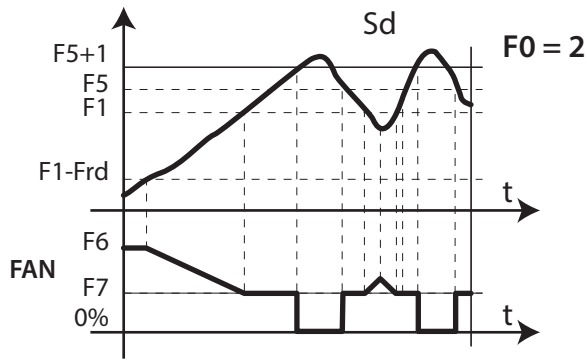

Fig. 6.0
- If  $F0=2$  and  $HO1=2$ , speed fan is calculated in according to Figure 6.0. Anyway, if speed fan is higher than 0, "FAN" relay DO3 is ON anyhow (closed):